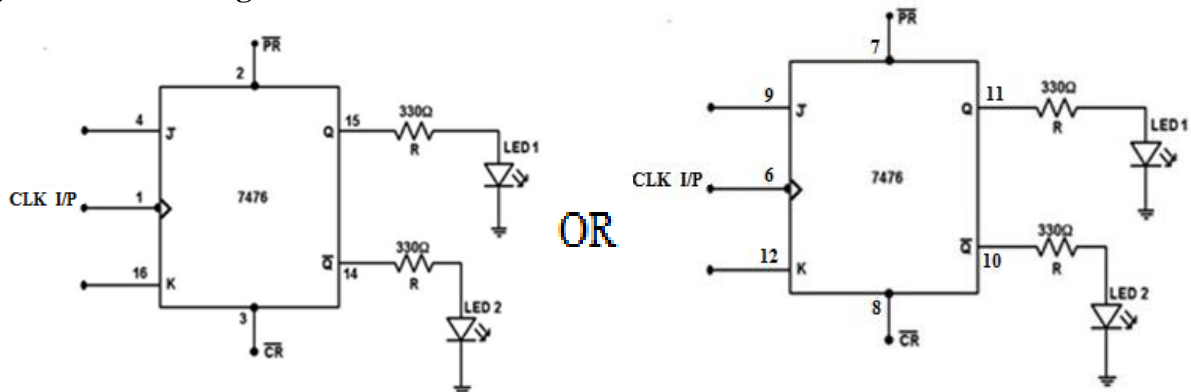

Figure 9.7 Circuit diagram of Master slave JK flip-flop using IC 7476
6. Make the connections as per the circuit diagram given in Figure 9.7.